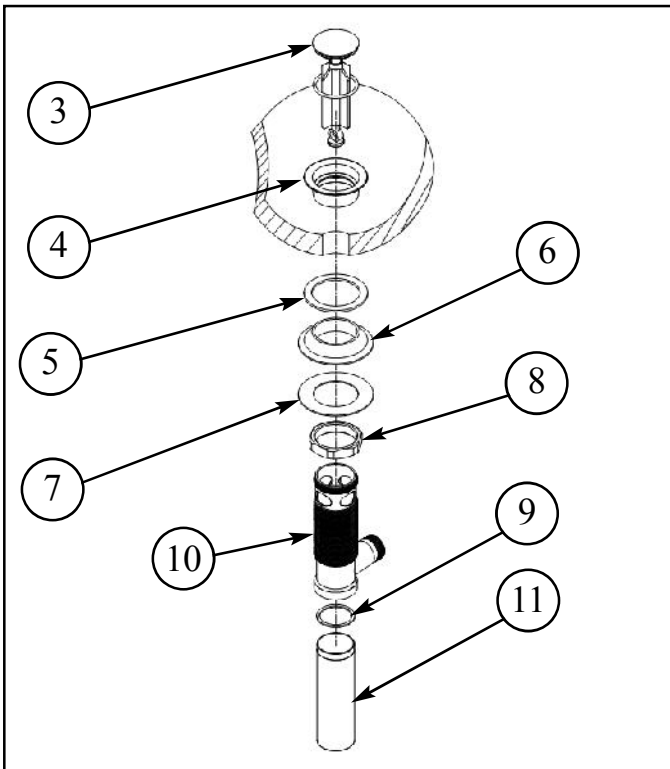
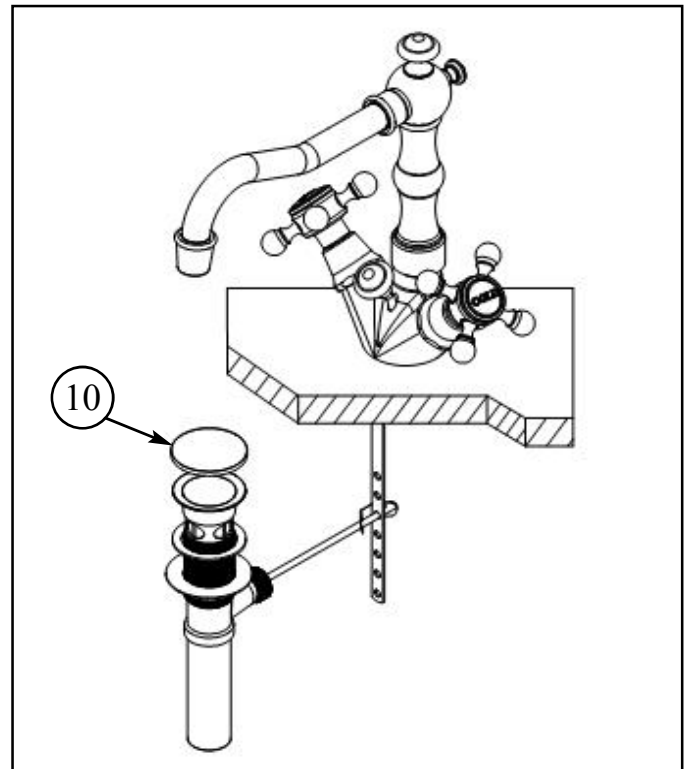

Figure 3
Figure 4
3. Remove drain PLUG (3) from FLANGE (4). Place FLANGE (4) and white WASHER (5) through sink drain opening. (Clear silicone may be used in place of white washer.) From bottom side of sink, place cone shaped rubber WASHER (6) onto FLANGE (4) and slide up against sink bottom. Note: Cone portion of WASHER (6) to face upward. Next slide on clear flat WASHER (7) and secure with flange NUT (8). Place clear WASHER (9) into drain BODY (10) & tighten to FLANGE (4). Apply thread sealant to TAILPIECE (11) and attach to drain BODY (10). Attach TAILPIECE (11) to p-trap drain (not included). See Figure 3 and See Figure 4.